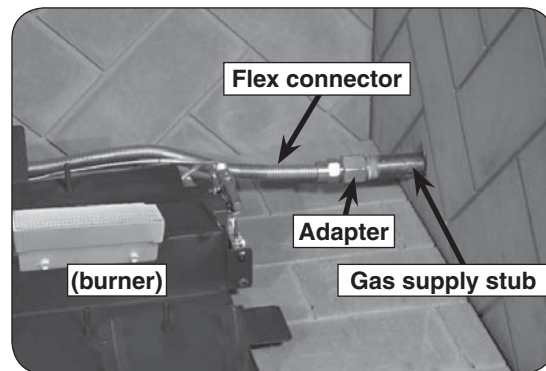

Fig. 19-1 Connect gas supply
2. Locate the gas-supply stub inside the fireplace and remove the cap, if attached (reference Fig. 19-1).
4. **Be sure gas to the fireplace is off.** Remove the adapter connected to the flex connector (pre-installed on the burner system). Attach the adapter to the gas-supply stub using a pipe compound resistant to all gasses. Tighten securely. Then attach the open end of the flex connector to the adapter. Tighten securely. (See Fig. 19-1.)